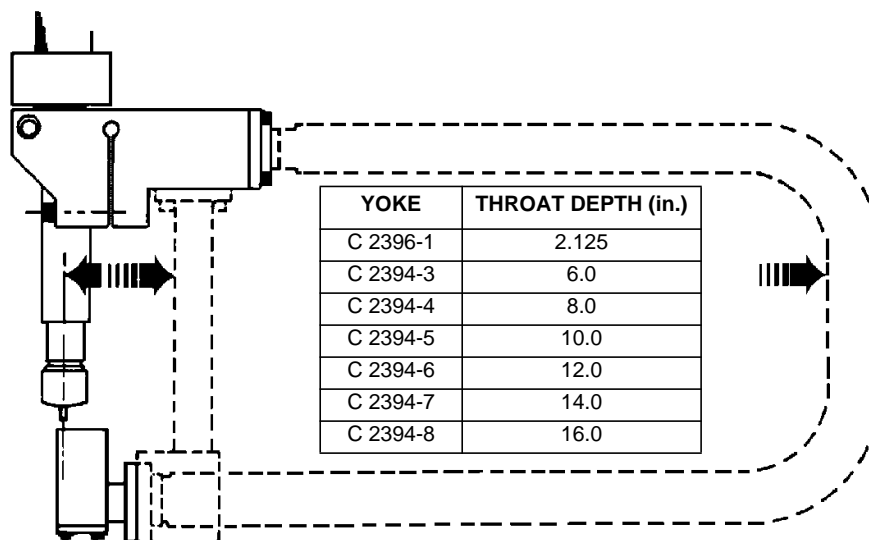

FIGURE 5 - YOKES FOR MODEL 401 ARTICULATED BOOM "WATEROUTER"
4.2.5 Yokes for Model 401 cutting machine (see Figure 5).
- *Yoke for Model 401* (See Figure 5) - in order to change yoke size (before changing yokes, operators shall consult their supervisor).